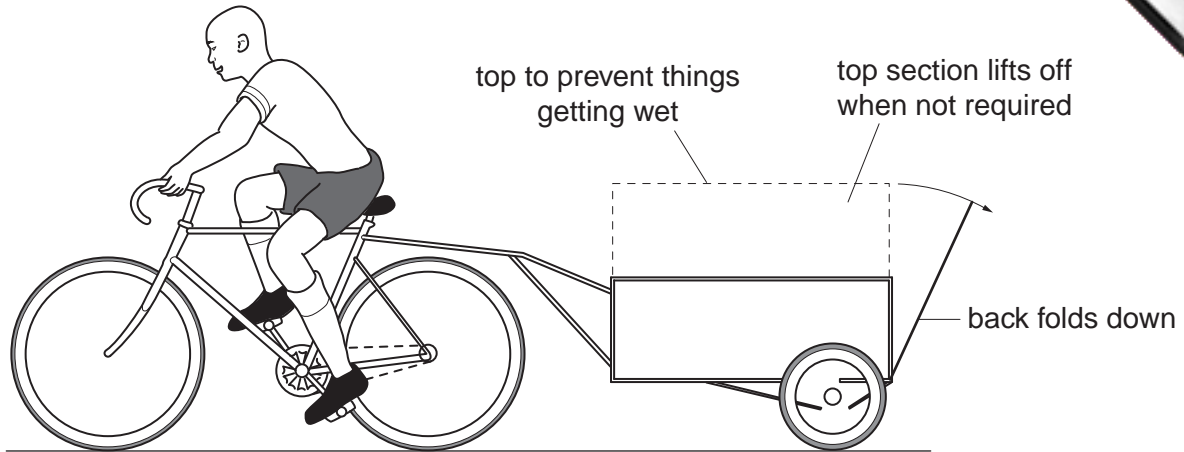

Fig. 9
- 8 Fig. 9 shows an incomplete design for a bicycle trailer.